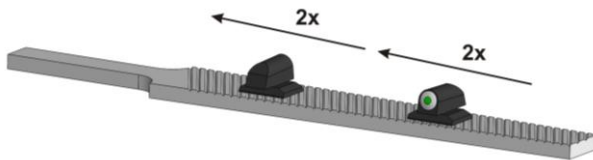
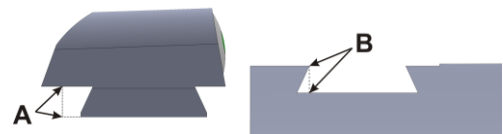

Figure 1
Figure 2
6. Using a fine file or emery paper on a flat surface, remove steel from the bottom of the sight until it will enter the dovetail halfway. (See Figure 1) Check the dovetail tips; if sharp, dull them. Do not file the dovetail (A) shorter than the depth (B) noted in Figure 2. If the sight still does not fit, but you have reached the minimum height, move to step 7; otherwise, skip to step 8.